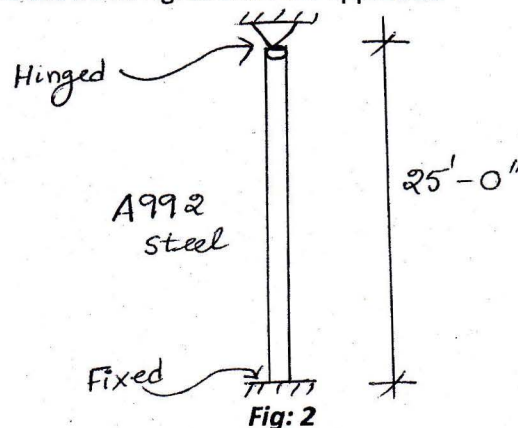

Fig: 2
- (d) Select the lightest W section of A992 ($F_y = 50$ ksi) steel to serve a column 25' long to carry an axial compression load of 115 kips dead load and 150 kips live load in a braced structure, as shown in Fig. 2. Use ASD approach. 13